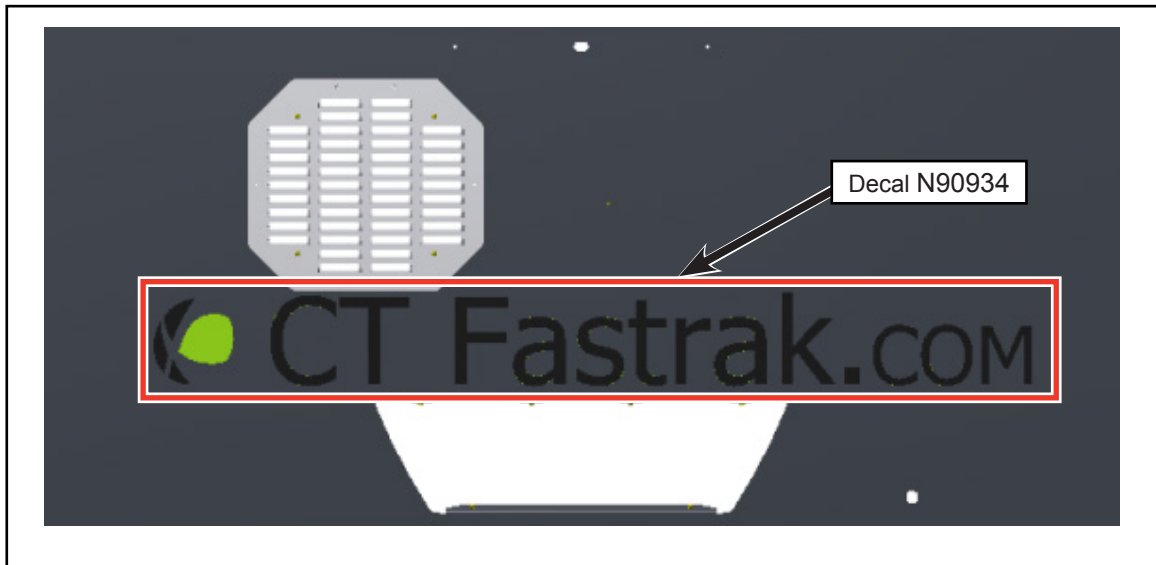

Figure 2 - Installation of Decal
- 1.4. Install the decal N90934 in the position shown on the engine door (see Figure 2).